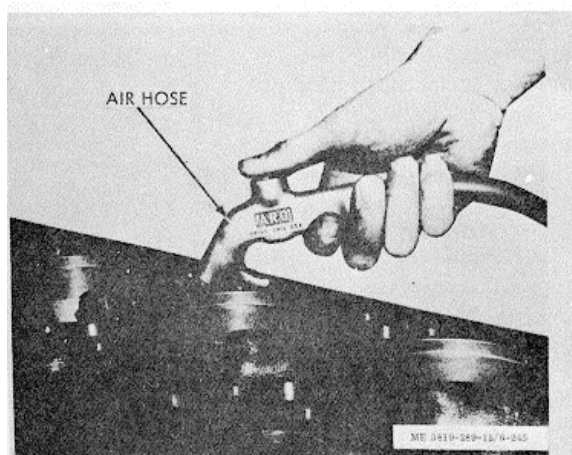

Figure 3-236. Cleaning cylinder head capscrew holes.
(7) Blow all dirt or cleaning fluid from capscrew holes with an air (fig. 3-236).